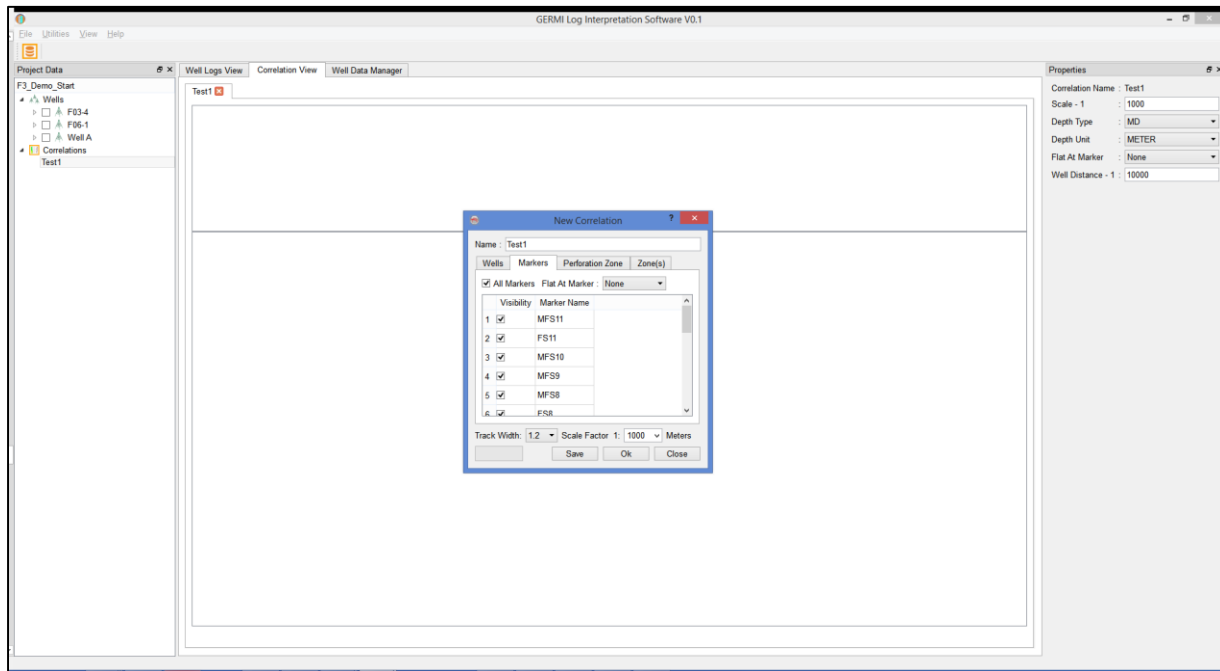

Figure 5.6 Wells tab in correlation template.
Step 5: Check/Uncheck the Well Markers in “Markers” tab in correlation template window to plot the markers in correlation view as shown in figure 5.6.